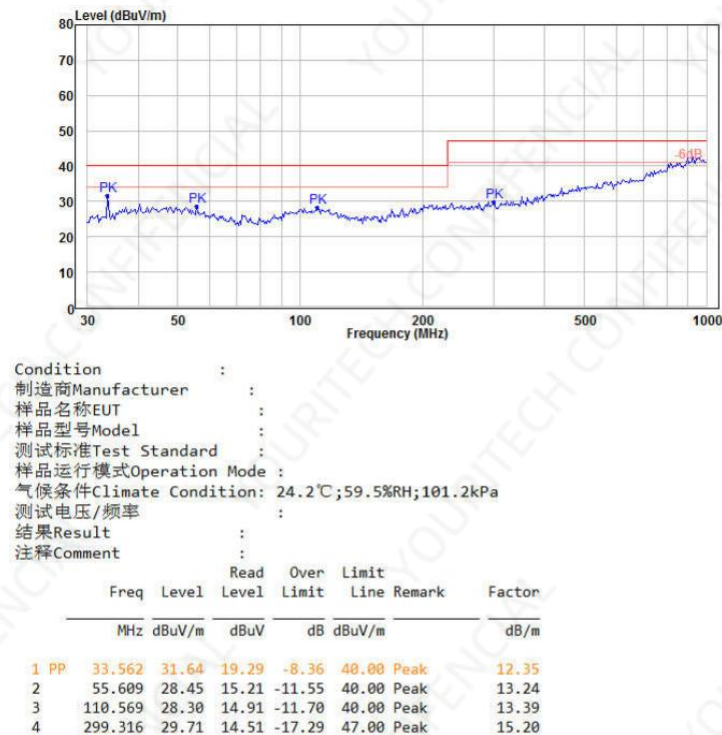

Figure 7-7 Radiation test vertical
2. Radiation test vertical test data, as shown in Figure 7-7.